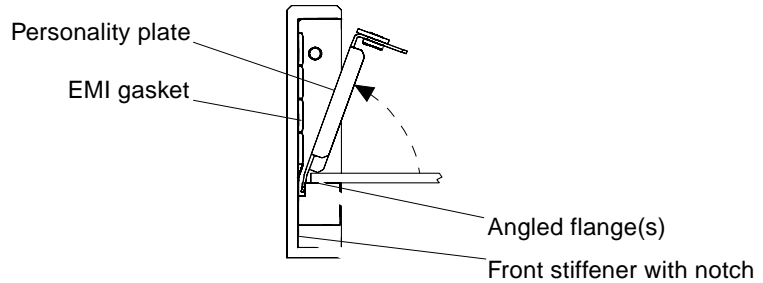

FIGURE 2-10 Installing a Personality Plate—Top View
- c. **On the new system board, align the angled flange to the notch of the front stiffener and swing the personality plate into place against the EMI gasket (FIGURE 2-10).**